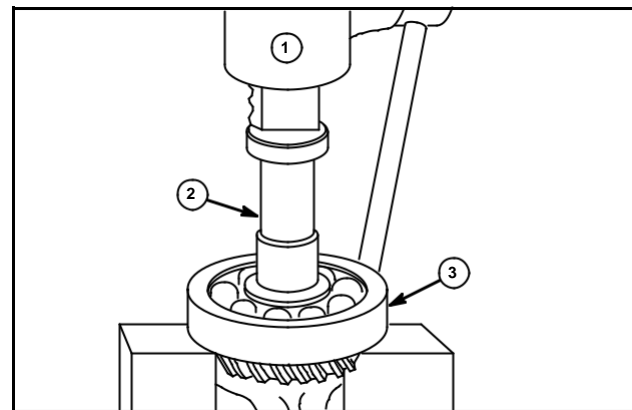

Fig. 11
The ball bearing (3) is a press fit on the crankshaft (2). If bearing is to be removed, use an arbor press (1), as shown in Fig. 11.